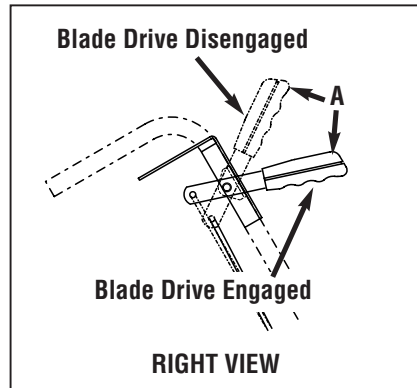
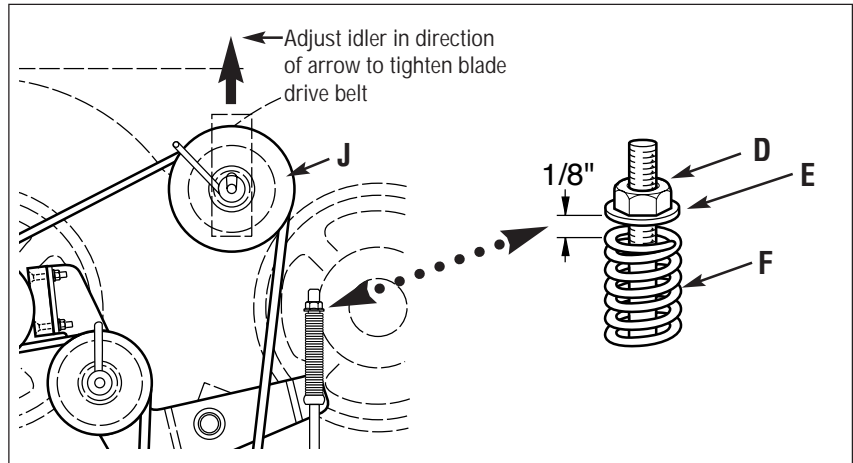

Figure 5-7: Blade Drive Control.
Figure 5-9: Blade drive adjustment.
- 2.** Disengage blade drive control (Figure 5-7) by releasing all controls on the mower.
- 2.** Have an assistant hold down Operator Presence Control and then push the Blade Drive Control forward until it latches in place (Figure 5-7).
4. With the Blade Drive Control (Figure 5-7) in the disengaged position, set a gap of 1/8" between the spring (F, Figure 5-9) and flat washer (E) by adjusting the nut (D).
7. If the drive belt slips during operation, it may be necessary to relocate idler (J, Figure 5-9) in the slot provided in the mounting bracket. **With the engine stopped and the spark plug wire disconnected**, loosen the hardware on the idler (J) and slide it forward to take up slack in the belt.